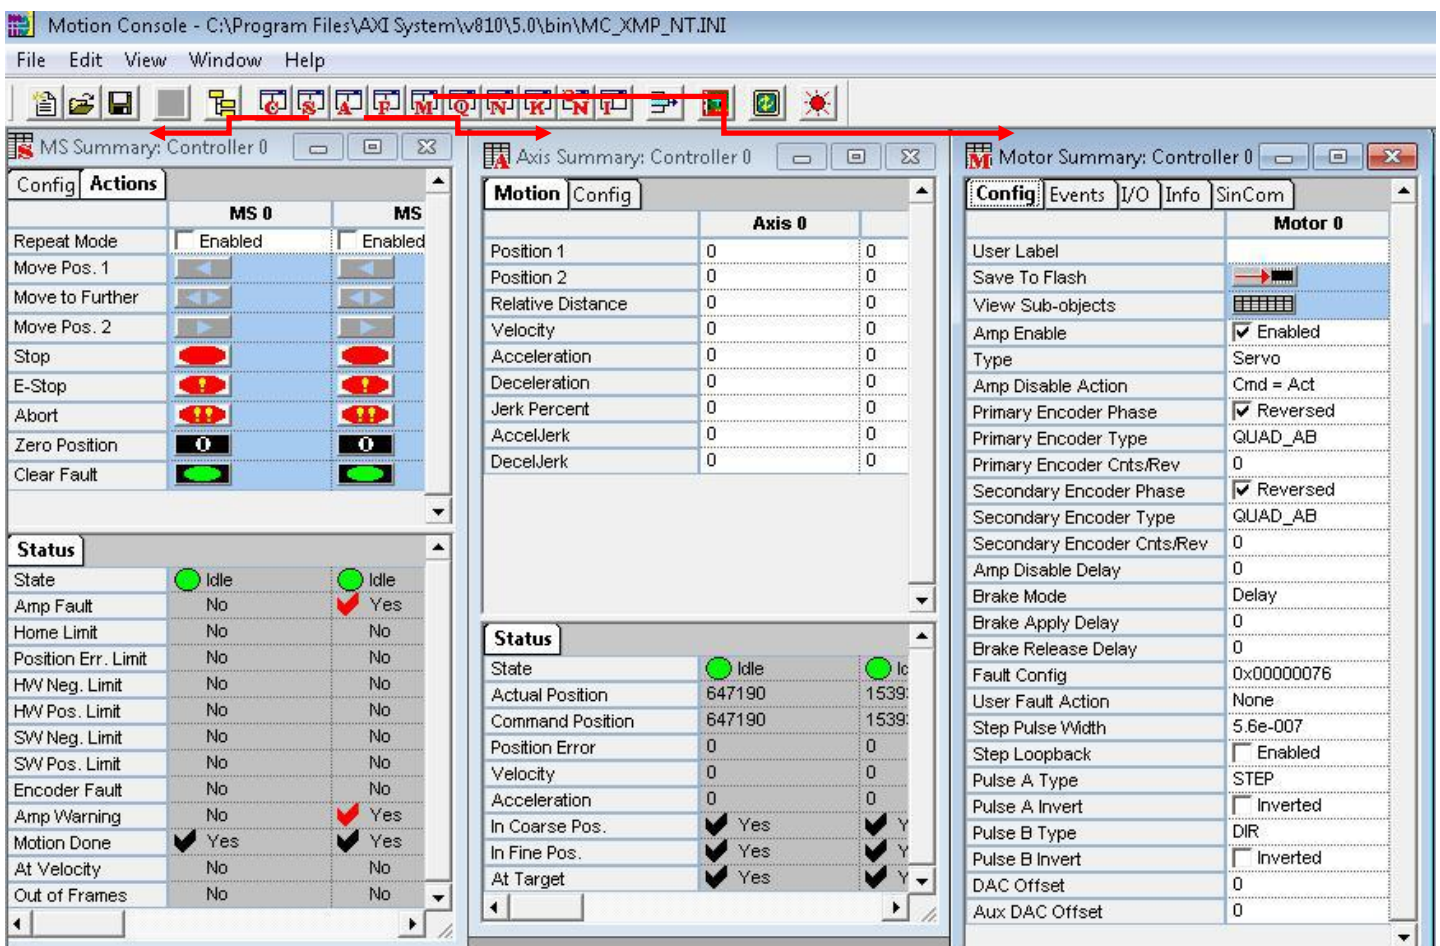

Figure 5 Motion Console tab
5. Ensure this 3 tab is open in the Motion Console tab as shown in Figure 5.